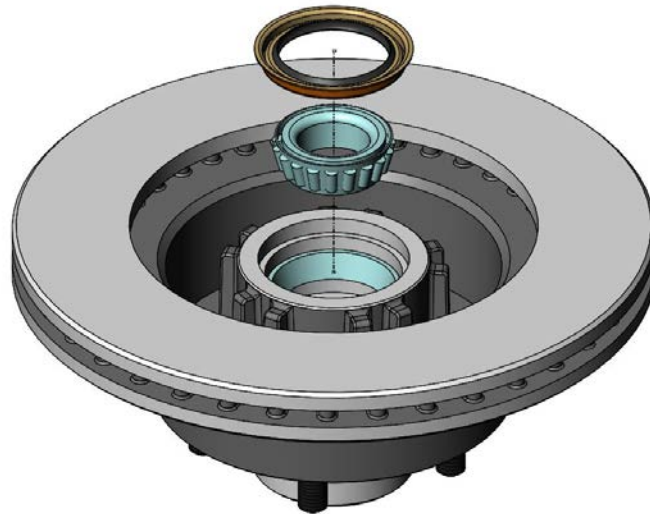

Figure 4 – Inner Wheel Bearing & Seal Installation
6. The wheel bearings can now be packed with a high quality wheel bearing grease available at your local parts store and the bearings can be installed in the rotors at this time. Once the inner bearing is installed, tap the inner seal in at this point. Figure 4 show the bearing and seal being installed.